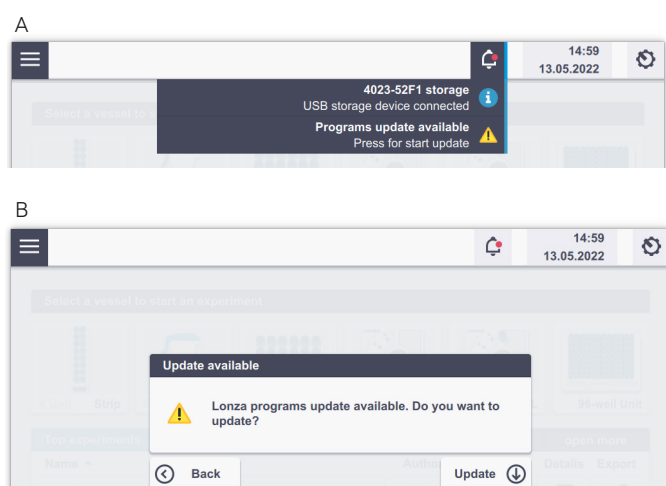

Figure 2.52: (A) Message upon insertion of USB stick with respective Lonza program file. (B) message after tapping on the program update button.
- The bell symbol at the top of the screen shows a notification (red dot; Figure 2.52 A). Tapping on the bell icon shows further information.